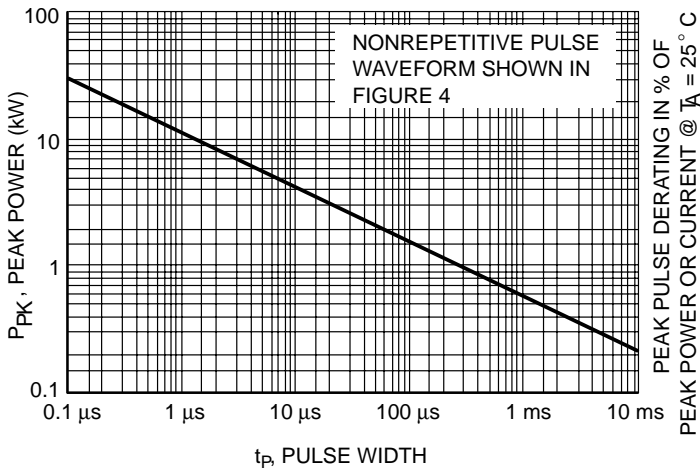
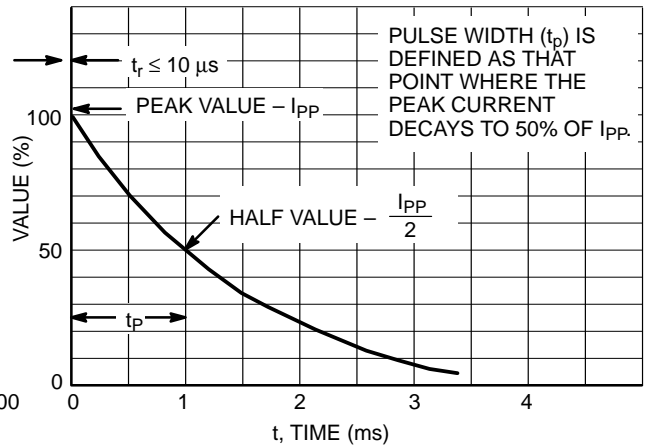
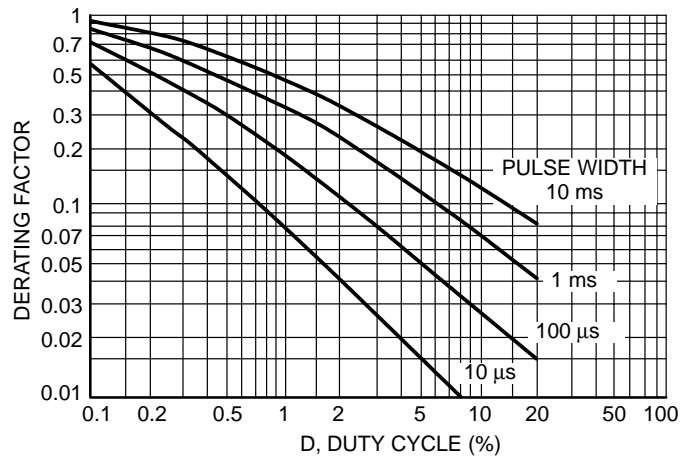

Figure 1. Pulse Rating Curve
Figure 4. Pulse Waveform
Figure 6. Typical Derating Factor for Duty Cycle
5. Surge current waveform per Figure 4 and derate per Figures 1 and 2.
The data of Figure 1 applies for non-repetitive conditions and at a lead temperature of 25°C. If the duty cycle increases, the peak power must be reduced as indicated by the curves of Figure 6. Average power must be derated as the lead or ambient temperature rises above 25°C. The average power derating curve normally given on data sheets may be normalized and used for this purpose.
At first glance the derating curves of Figure 6 appear to be in error as the 10 ms pulse has a higher derating factor than the 10 μs pulse. However, when the derating factor for a given pulse of Figure 6 is multiplied by the peak power value of Figure 1 for the same pulse, the results follow the expected trend.